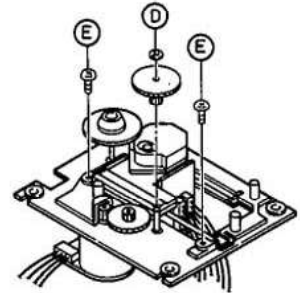

Figure 9
4. Remove washer (D) holding the gear and remove the gear. (See Figure 9)
5. Remove two screws (E). (See Figure 9)